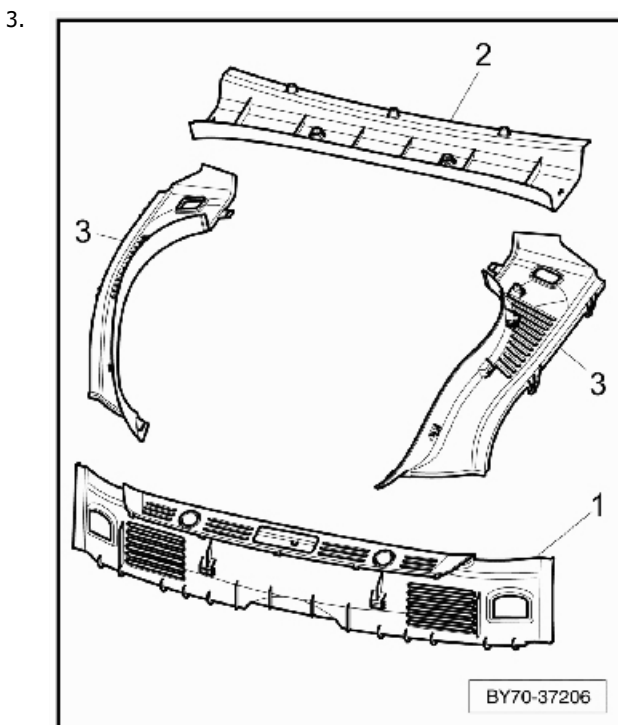

Figure 3
4. Ensure the boot aperture finishers (see Figure 3) are secure, correctly fitted and not compromising the boot lid seal fitment, rectify and replace damaged clips where necessary